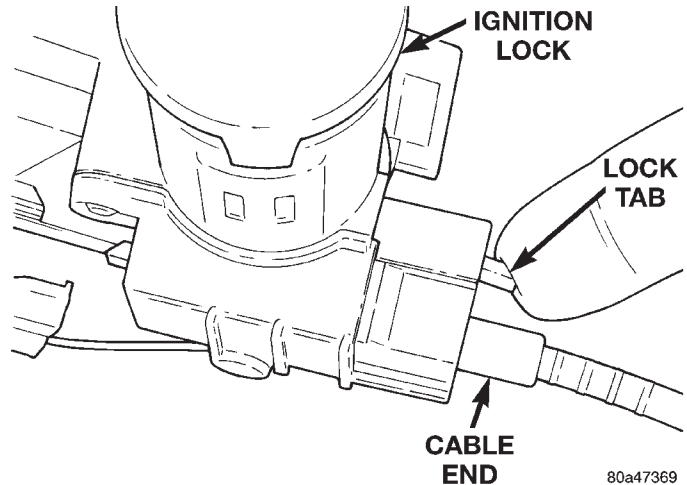

Fig. 29 Brake/Park Interlock Cable
- (1) Remove lower steering column cover. Refer to Group 8E, Instrument Panel and Gauges, for proper procedure.
- (2) Remove lower steering column shroud. Refer to Group 19, Steering, for proper procedure.
- (3) Remove tie strap near the solenoid retaining the brake transmission interlock cable to the steering column.
- (4) Disengage wire connector from solenoid.
- (5) With the ignition removed or in the unlocked position, disengage lock tab holding cable end to steering column (Fig. 29).
- (6) Pull cable end from steering column.
- (7) Remove the floor console and related trim. Refer to Group 23, Body, for proper procedure.